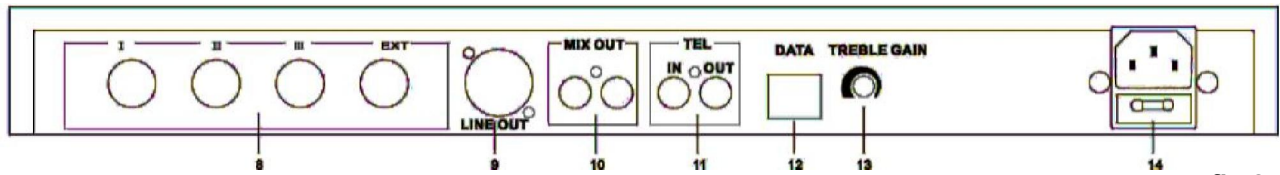

fig.2
Connect the unit to 230 V AC 50/60 Hz mains . Use the connection cables provided to connect the daisy-chained stations to the 4 **BASE INPUT**s (figure 2, ref. 8) as shown in **figure 3**, paying attention not to connect more than 30 stations to each line and no more than 64 stations altogether.